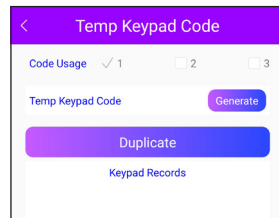

Fig. 26
**Step 3.** Code Usage limits the number of times a keypad code can be used: 1 for one-time use, 2 for two-time use, and so on. Set the number of uses (Code Usage) for this passcode, between 1 and 3, then tap Generate (Fig. 26).